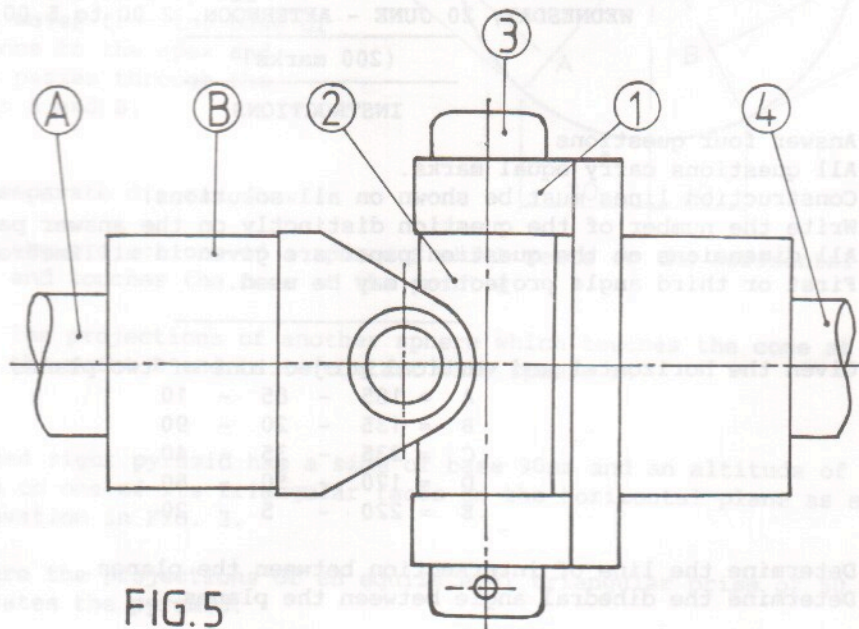

FIG. 5
- (b) (i) Identify the mechanism shown in Fig. 5.